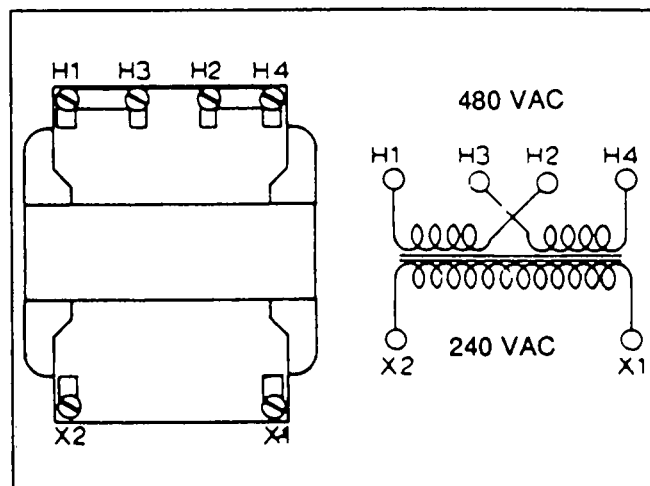

Figure 11. Transformer TR4 Test Points
1. See Figure 11. Turn ON the "Utility" power supply to the transfer switch.